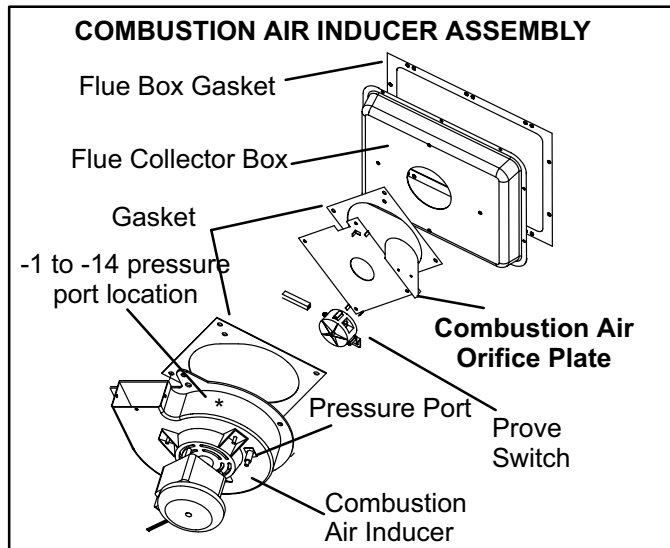

FIGURE 14
A proving switch connected to the combustion air inducer orifice plate (figure 14) is used to prove inducer operation. The combustion air inducer orifice will be different for each model. See table 9 for orifice sizes. The switch monitors air pressure in the inducer housing. During normal operation, the pressure in the housing is negative. If pressure becomes less negative (signifying an obstruction) the proving switch opens. When the proving switch opens, the furnace control (A92) immediately closes the gas valve to prevent burner operation.
G50DF(X) series units are equipped with a combustion air proving switch located on the combustion air inducer orifice plate. See figure 14. The switch is connected to the combustion air inducer housing by means of a flexible silicone hose. It monitors negative air pressure in the combustion air inducer housing.